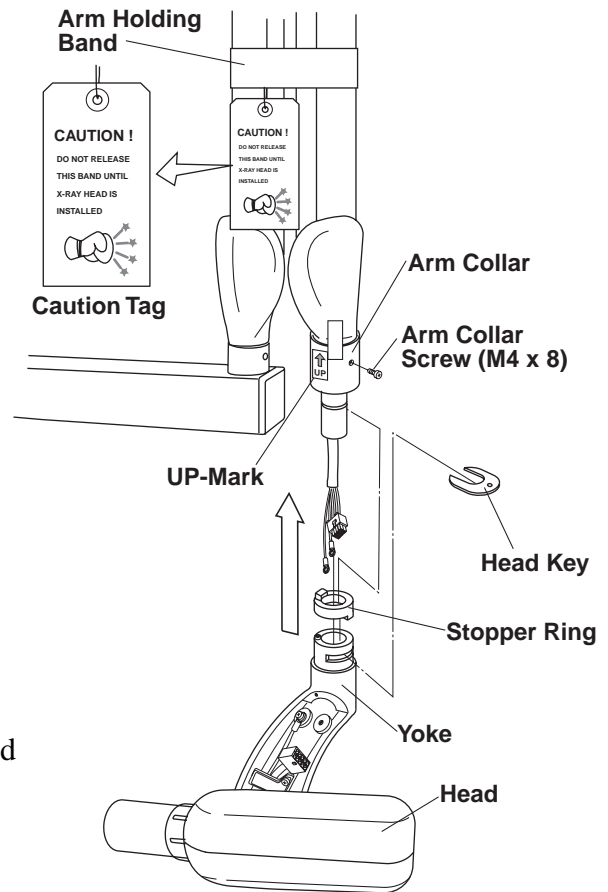

Fig.3-16 X-ray Head Installation
3. Making sure the stopper ring is placed on the yoke, insert the wiring from the balance arm assembly through the head shaft and into the yoke. (Fig.3-16)
4. Insert the shaft of the balance arm into the head yoke, and while holding the head in position, insert the head key securely into the retaining groove. **(Fig.3-16)**
5. Remove adhesive tape and slide the arm collar downward. Fix it in place with the arm collar screw. Remove the UP-mark from the arm collar. **(Fig.3-16)**